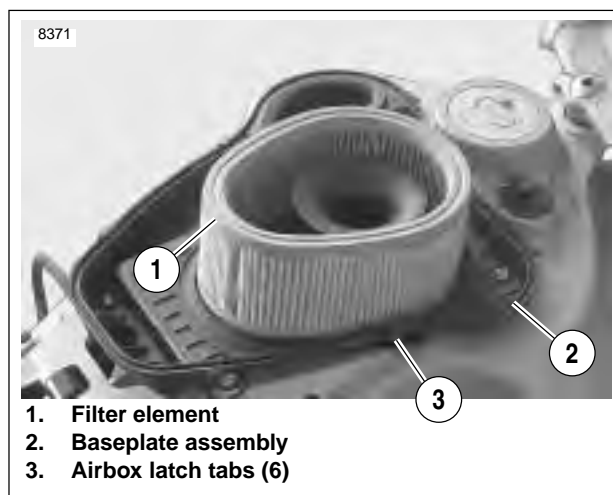

Figure 1-38. Installed Air Cleaner Filter Element
5. See Figure 1-38. Remove the filter element (1) from baseplate (2). Inspect and replace if necessary.
1. See Figure 1-38. Place filter element (1) on baseplate (2).